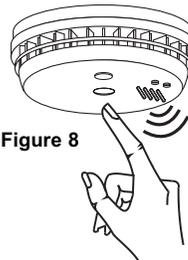

Figure 8
7. Press the test button on each alarm to ensure that the smoke alarm works (see figure 8).
Press and hold the Test Button until the alarm sounds (see figure 8). The alarm will stop sounding shortly after the button is released. If you press and hold the button longer, so that the blue light also comes on, you will hear the radio link interconnected alarms sounding after the present alarm stops.